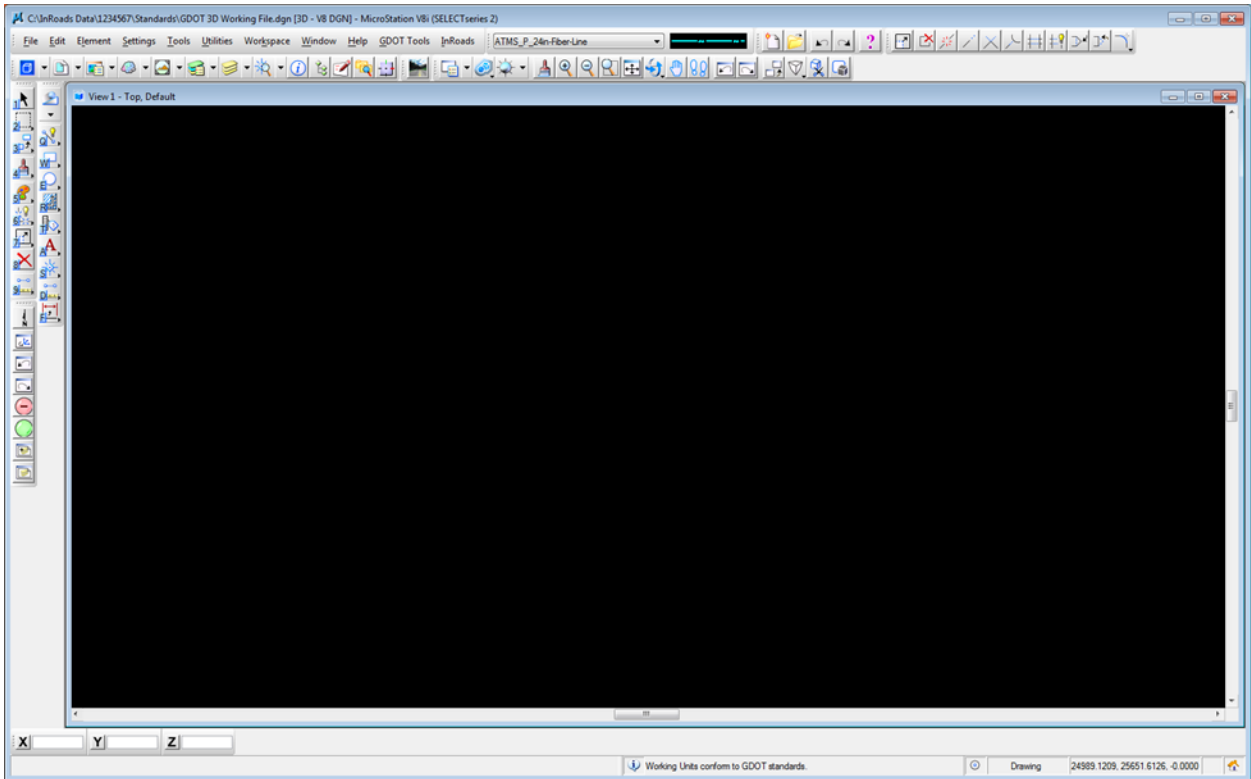

Figure 1-3 Main MicroStation V8i Window
9. Select **InRoads ► InRoads Suite (SELECTseries 2) V8i 08.11.07.566** — and the **InRoads V8i Select Series 2** interface will open. Once **InRoads** and **MicroStation** are up and running, the desktop should look similar to that of *Figure 1-3* and *Figure 1-4*.
4. The **MicroStation V8i Select Series 2** interface will then finish opening. Then select **InRoads ► InRoads Suite (SELECTseries 2) V8i 08.11.07.566** — and the **InRoads V8i Select Series 2** interface will open. Once **InRoads** and **MicroStation** are up and running, the desktop should look similar to that of previous screen captures *Figure 1-3* and *Figure 1-4*.